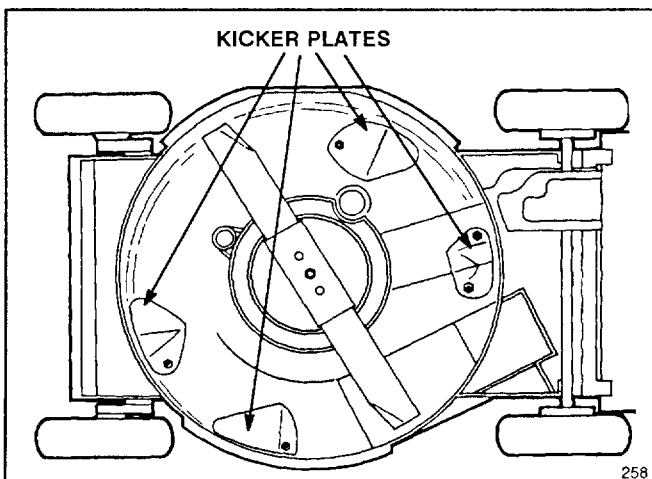

Figure 18
Keep underside of mower housing clean. Be especially careful to keep kickers on underside of mower housing free of debris (Fig. 18).
3. Tip mower on its right side (Fig. 18). Avoid rotating blade as starting problems may result.